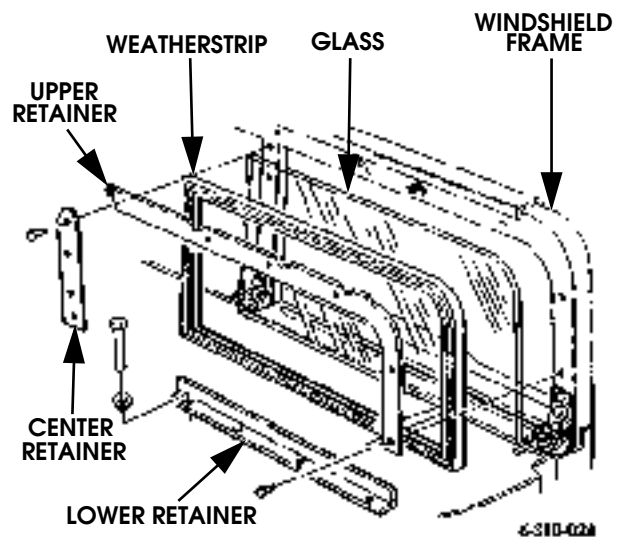

Figure 10-102: Windshield Glass Replacement
2. Remove six bolts and upper retainer from windshield frame (Figure 10-102).
1. Apply a 1/8 in. (3 mm) bead of sealing compound to edge of glass and windshield frame (Figure 10-102).